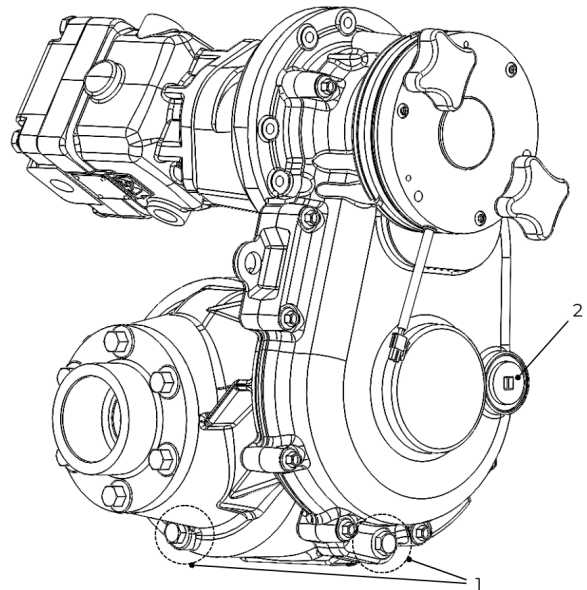

Figure 42. Aluminum Case Drain and Filler Plugs.
2. Remove the aluminum case filler plug (2) (Figure 42).